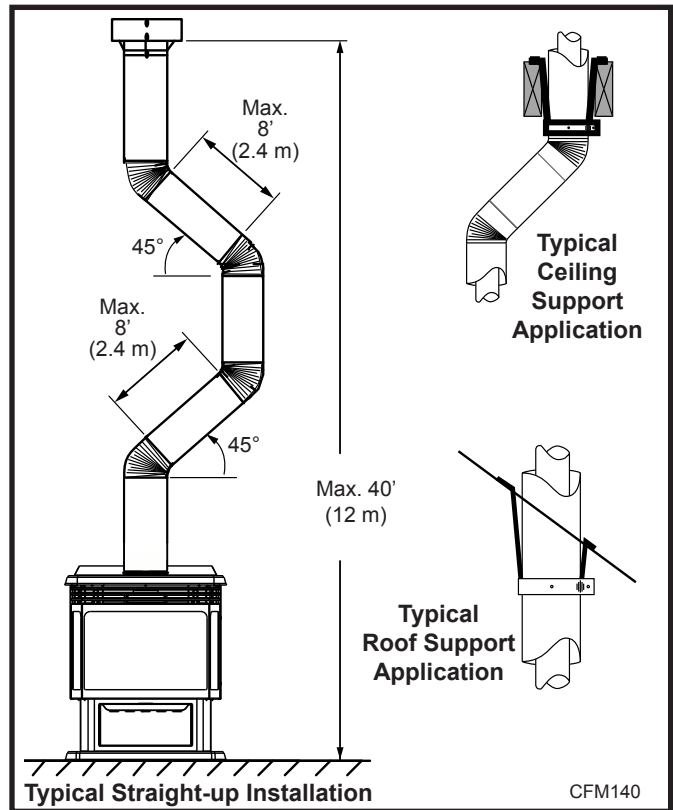

Fig. 22 Vertical through-the-roof installation.
- Two sets of 45° elbows offsets within these vertical installations. From 0 to a maximum of 8' (2.4 m) of vent pipe can be used between elbows. (Fig. 22)
- 7DVCS must be used to support offsets. (Fig. 22) This application will require that you first determine the roof pitch and use the appropriate starter kit. (Refer to Venting Components List)
7. Install roof support (Fig. 22) and roof flashing making sure upper flange of flashing is below the shingles. (Fig. 25)